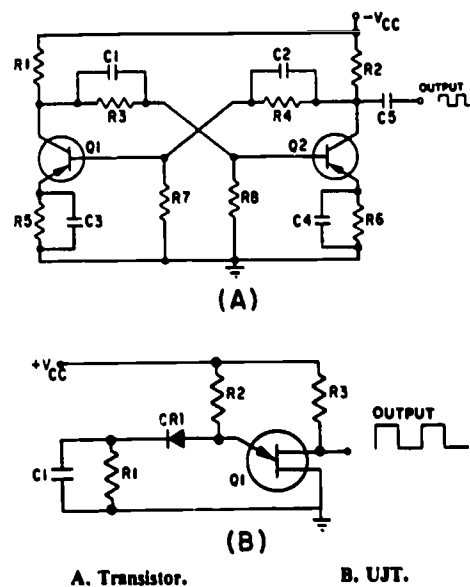

Fig 3-38. Comparison of conventional transistor and UJT circuits.
The UNIJUNCTION TRANSISTOR (UJT), originally called a double-based diode, is a three-terminal, solid-state device that has several advantages over conventional transistors. It is very stable over a wide range of temperatures and allows a reduction of components when used in the place of conventional transistors. A comparison is shown in figure 3-38. View (A) is a circuit using conventional transistors, and view (B) is the same circuit using the UJT. As you can see, the UJT circuit has fewer components. Reducing the number of components reduces the cost, size, and probability of failure.